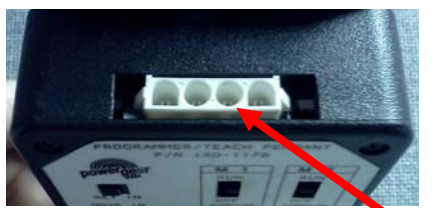

Figure 6 Foil sticker
5. To enter programming mode, remove the foil sticker covering the O and I buttons on the new control (see **FIGURE 6, page 3**). Using a paper clip (or similar item) simultaneously press the O and I buttons located on the slide out controller for 5 seconds (see **FIGURE 7, page 3**). Press firmly. It is not necessary to replace the foil sticker.